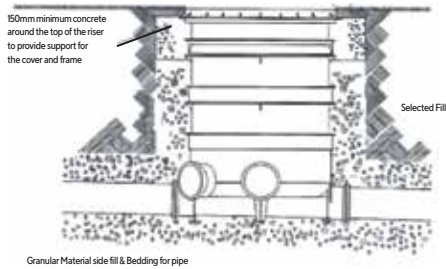
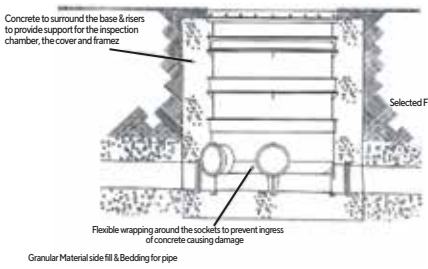

FIG. 1
FIG. 2
Installation of the chambers is to be done with the standard practice and as per requirement of local authorities. General installation figures are provided herewith for different type of installation mainly based on traffic loads which are going to affect on system. Fig. 1 is for installation
of 450mm chamber base with durable polypropylene cover and frame having wheel load up to 1.5 tonnes. Suits pedestrian areas / domestic driveways. Fig. 2 is for installation of 450 mm chamber base with RCC cover and frame. Fig. 3 is for installation of 315 mm chamber base.
Installation as per load class requirements General installation figures are provided herewith for different type of installation mainly based on traffic loads which are going to impose on system. Fig. 1 is for installation of 450mm chamber base with durable polypropylene cover and frame having wheel load up to 1.5 tons. Suits pedestrian areas / domestic driveways. Fig. 2 is for installation of 450 mm chamber base with RCC cover and frame having load class up to 20 tons. Suits heavy traffic loads. Fig. 3 is for installation of 315 mm chamber base.
- The chamber base should be bedded with suitable granular material or single size aggregates having no sharp edges on 100 mm bed thickness for light traffic load conditions. For heavy traffic load conditions Fig.2 section has to be followed.